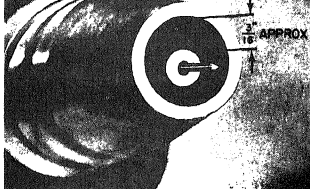

Figure 18. Nozzle-to-Contact Tube Distance
- h. Screw nozzle onto barrel and tighten. The nozzle-to-contact-tube distance should be approximately 3/16-inch (Fig. 18), if all fittings have been properly installed.